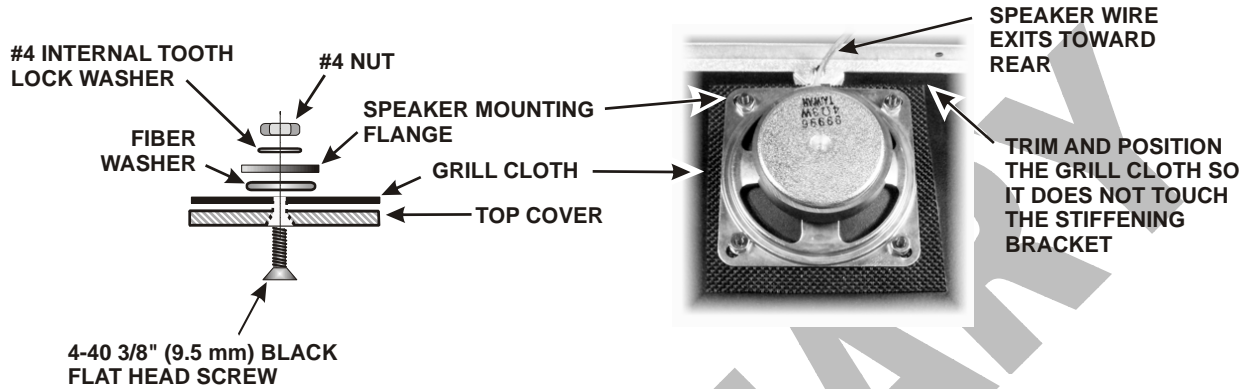

Figure 60. Mounting Loudspeaker.
- Trim the grill cloth to cover the speaker grill openings and overlap the four holes for the loudspeaker mounting screws. Mark and cut four holes in the grill cloth for screws to pass through the cloth. The grill cloth is shown as it needs to fit after the speaker is mounted in Figure 60. If you install the KPA3 100-watt amplifier, the stiffener will be attached to the chassis and cannot be removed with the cover. In that case, the grill cloth must be trimmed so it cannot become trapped between chassis stiffener and the top cover.
- Mount the speaker using the hardware shown in Figure 60. Be sure to include the fiber washers between the speaker flanges and the grill cloth as shown. They are necessary to avoid distorting the speaker frame. Also, take care not to over-tighten the screws so that the speaker mounting flanges are bent.